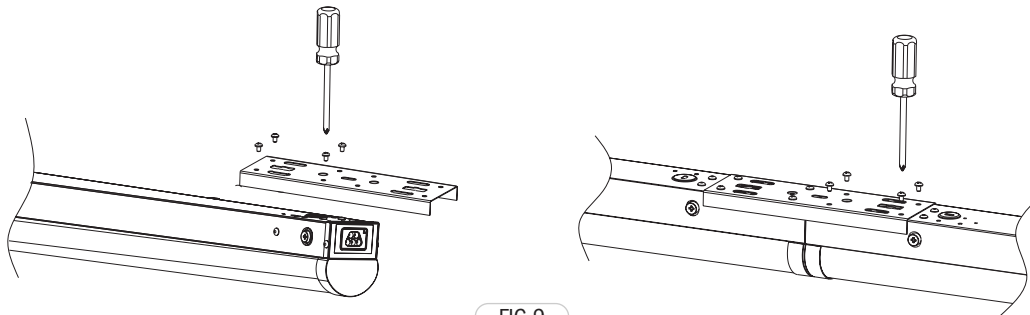

FIG. 9
③ OPTIONAL - Each fixture has two ends, labeled A and B. To connect multiple fixtures end-to-end, remove the plastic SnapLink™ cap from the fixture ends. Insert the A end of one fixture into the B end of another, then secure the connection using the connecting plate (sold separately). (Figure 9)